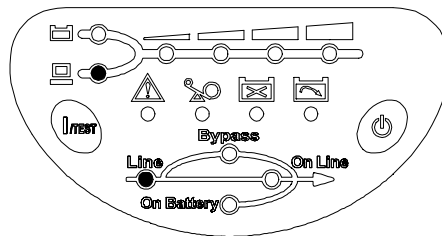

Fig 3-1 Stand-By Mode
- (1) Be sure to utilize UL1015#12 AWG WIRE for GES302N11XX model and UL1015#10 AWG WIRE for GES202N11XX model for power connection.
- (2) Connect one end of L,N,G strings to those of the terminal block and the other end to those of the switch box (L-L, N-N, G-G).
- After that, the fan (in rear panel) will run and all LEDs will light for about 2-3 sec. Meanwhile the CPU inside the UPS setups the initial parameters. User also can check whether all LEDs are normal or not. The UPS is set in “**STANDBY mode**” initially, after a ‘bee’ is heard, the load LED lights on and the line LED shows AC utility status. Shown as fig 3-1.
The UPS will keep charging when UPS is in “**STANDBY mode**” even though the **0** button has been pressed. To fully turn off the UPS, it is advised to unplug the power cord. Refer to fig 3-1.